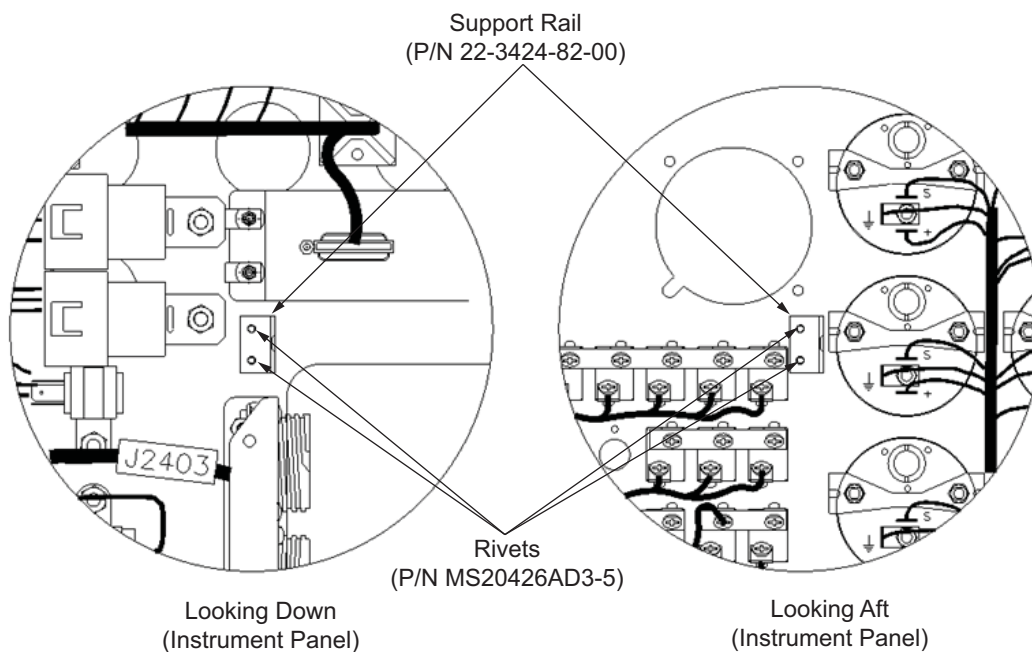

Figure 9
- 10.12 Rivet the support rails (P/N 22-3424-82-00) as shown in Figure 9 using supplied rivets (P/N MS20426AD3-5).
NOTE: Observe orientation of support rail as shown in Figure 9 when installing.